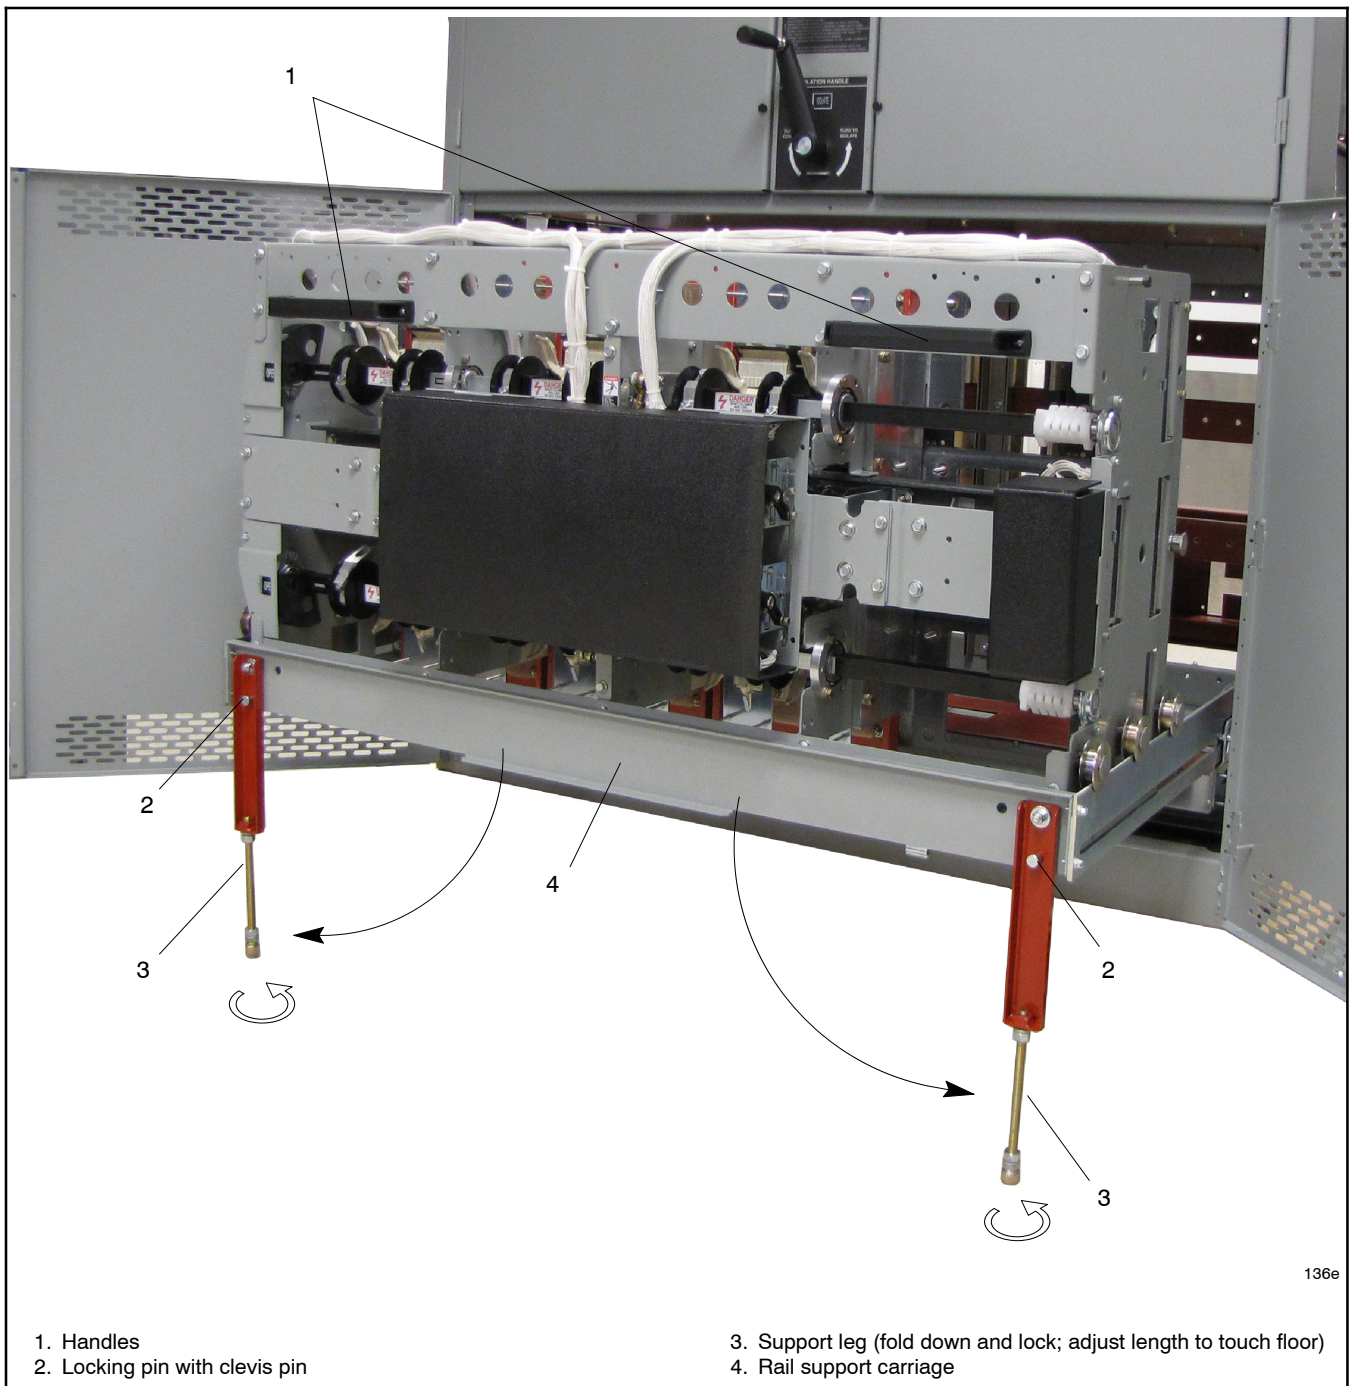

Figure 7-60 4000 Amp Transfer Switch Isolated and Pulled Out for Inspection
3. See Figure 7-60 and follow these steps: